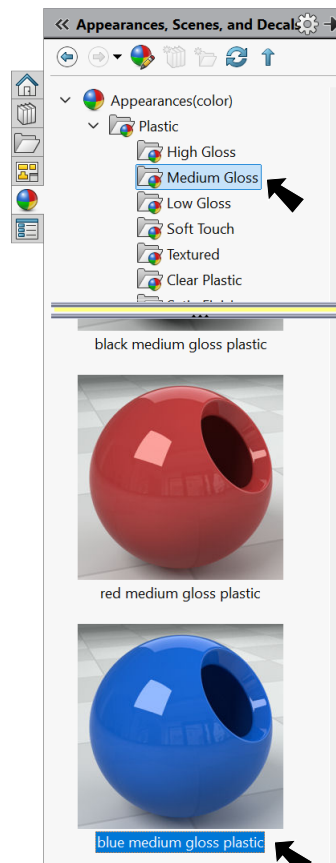

Fig. 15
Step 3. In the Appearances Task pane, expand **Plastic**, click **Medium Gloss** and in the lower pane select **blue medium gloss plastic**, Fig. 15.